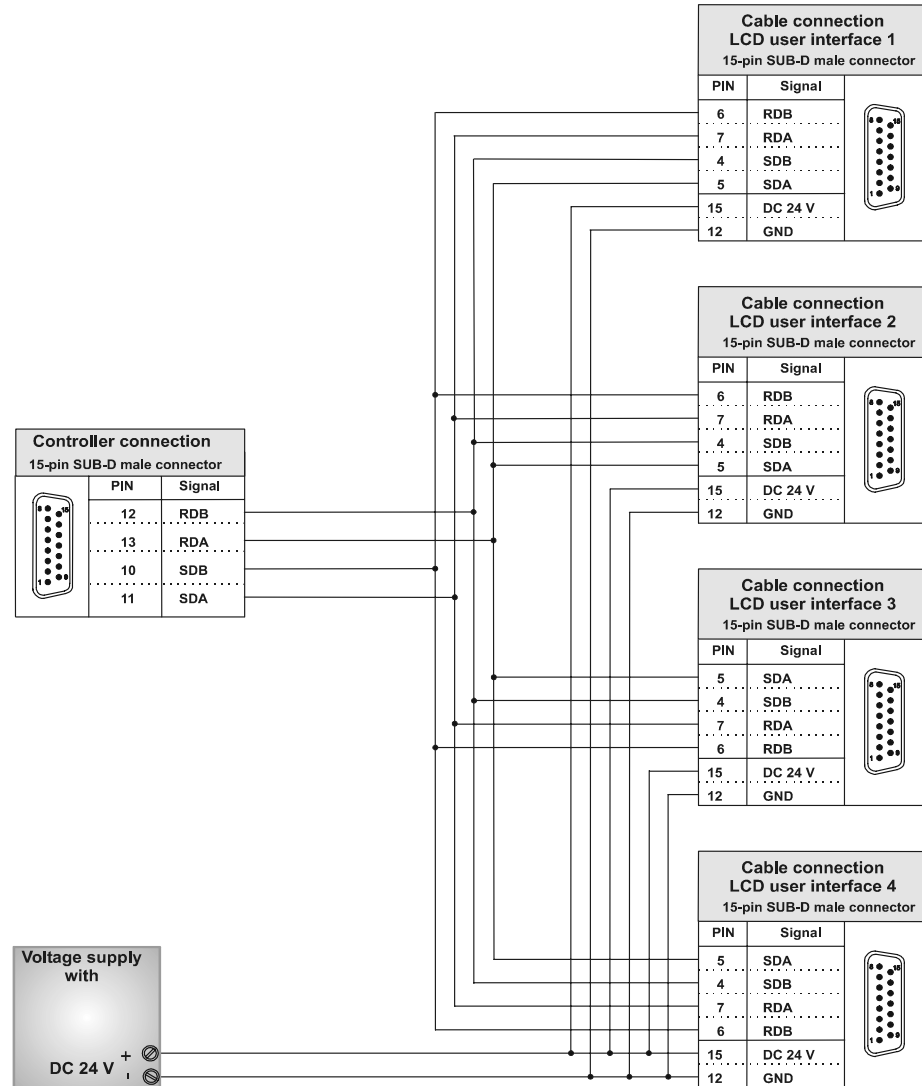

Fig. 4: PIN Assignment of the Connecting Cable for Several LCD User Interfaces
- Different from the standard design, the connection cables must be altered, see Fig. 4, page 17.